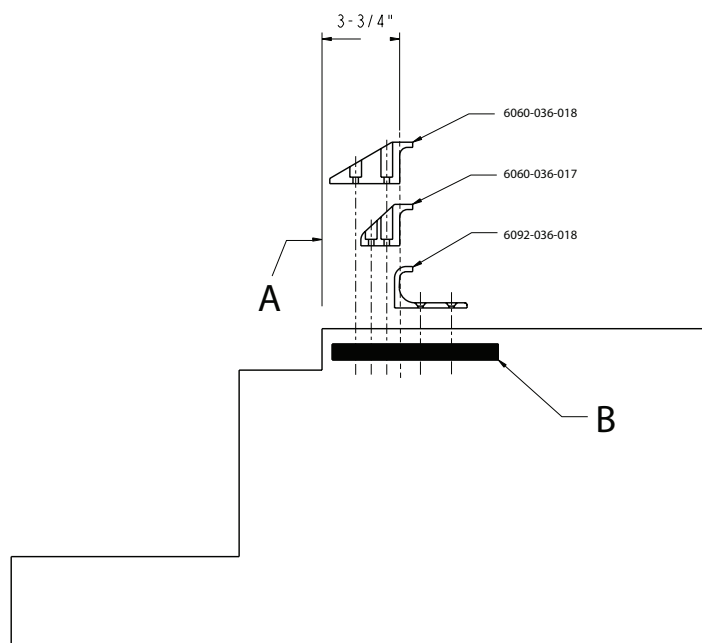

Figure 9 – Vehicle safety hook placement
2. Position the vehicle safety hook at least 3-3/4 in. from the leading edge of the door sill (A) (Figure 9). The recommended distance from the face of the safety hook is no less than 3-3/4 in.